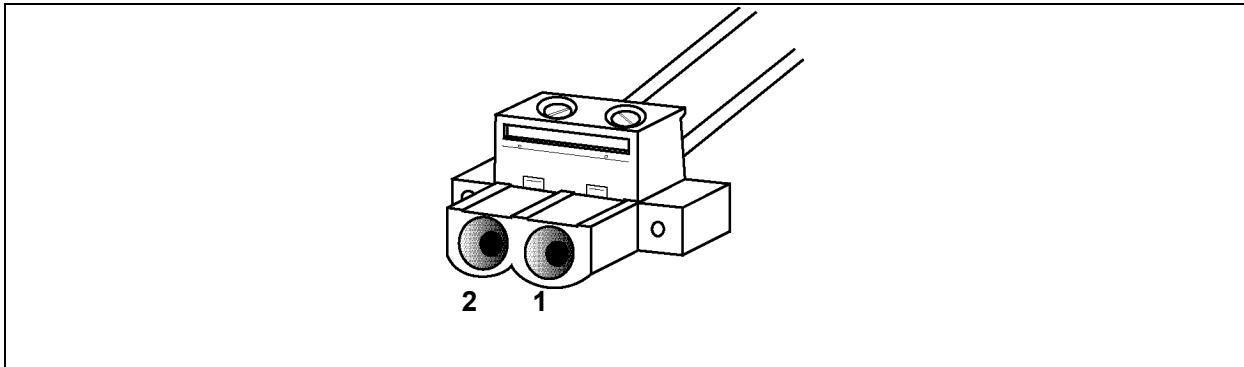

Figure 3-14. SDIDU™ DC Power Cable Connector
1. To connect to the SDIDU™ DC power connector (located on the left front SDIDU™ panel), an SDIDU™ power cable is required. A mating power cable connector (Phoenix Contact P/N 17 86 83 1) is provided with the MDS 5800 II SDIDU™ for construction of this cable. This connector has screw clamp terminals that accommodate 24 AWG to 12 AWG wire. The recommended wire size for construction of power cables under 10 feet in length, supplying -48 V dc, is 18 AWG. The opposite end of the SDIDU™ power cable should have a termination appropriate for the power supply being used. The SDIDU™ power cable should be of sufficient length to avoid tension in the cable and provide a service loop for connection, but not be of excessive length. Stranded wire should be used over a solid conductor to reduce tension on the SDIDU™ DC Power connector. Using the supplied power cable connector, pin 2 (labeled **-V**) should be connected to the power supply terminal supplying -48 V dc, while pin 1 (labeled **RET**) should be connected to the power supply return. Refer to Figure 3-14. Note that pin 1 (**RET**) of the SDIDU™ DC Power connector is connected to the SDIDU™ chassis ground internal to the SDIDU™. Use of a power supply with an inappropriate ground reference may cause damage to the SDIDU™ and/or the supply.
2. Connect the SDIDU™ power cable to the -48 V dc power supply, and place the voltmeter probes on the unconnected SDIDU™ end of the power cable, with the positive voltmeter probe on pin 2 (**-V**) of the cable connector and the negative probe on pin 1(**RET**). The connector screw terminal screw heads may be used as convenient monitor points. Refer to Figure 3-14.